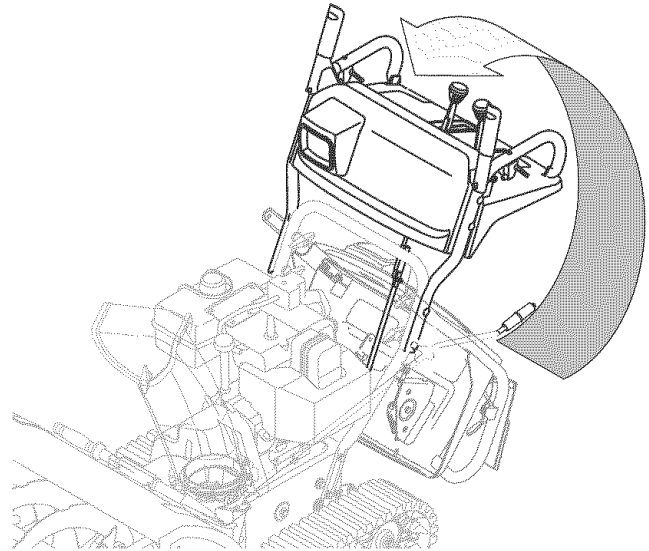

Figure 3
4. Raise the upper handle assembly until it aligns with the lower handle. See Figure 3.